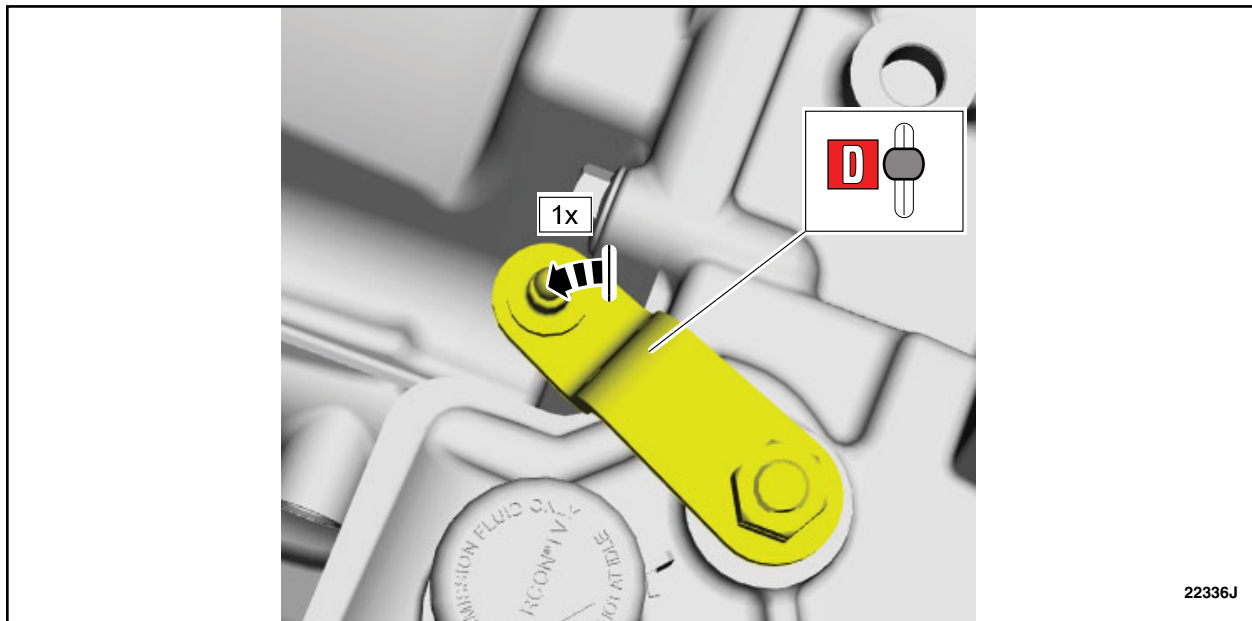

FIGURE 12
13. Rotate the manual control lever counterclockwise 1 detent into Drive (D). See Figure 12.